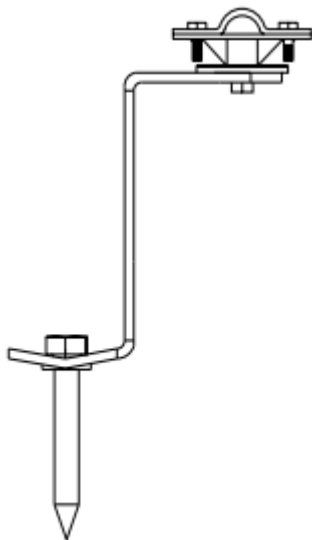

Figure 2.
- Install the Z-bracket plate by placing it into the roof recess such that the PR-bracket plate is in a vertical position (Figure 2).
- Screw the PR-bracket plate to the roof using 2 M8x60 mm screws and 2 M8 rubber washers (Figure 2).
- Tighten the screws such that the Z-bracket plate holds firmly on the roof material (Figure 2).
- Install the safety cable fasteners on top of the Z-bracket plate and screw them together using the M8x20 screw (Figure 2).